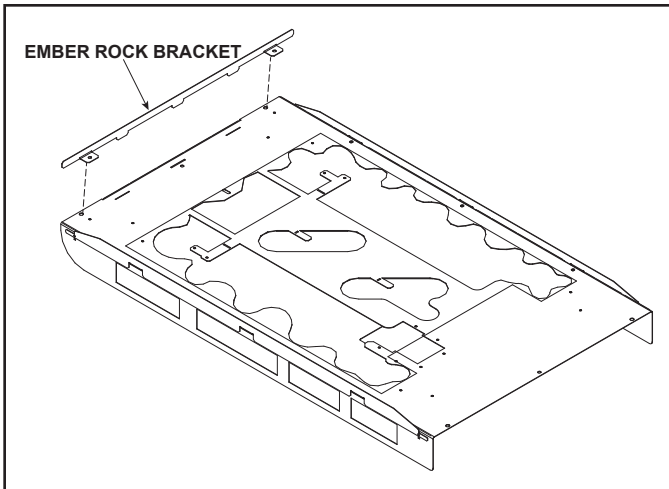

Figure 3. Remove Ember Rock Bracket (ST-36TR-IFT Only)
**ST-36TR-IFT ONLY:** The ember rock bracket must be removed before installing refractory. See Figure 3.